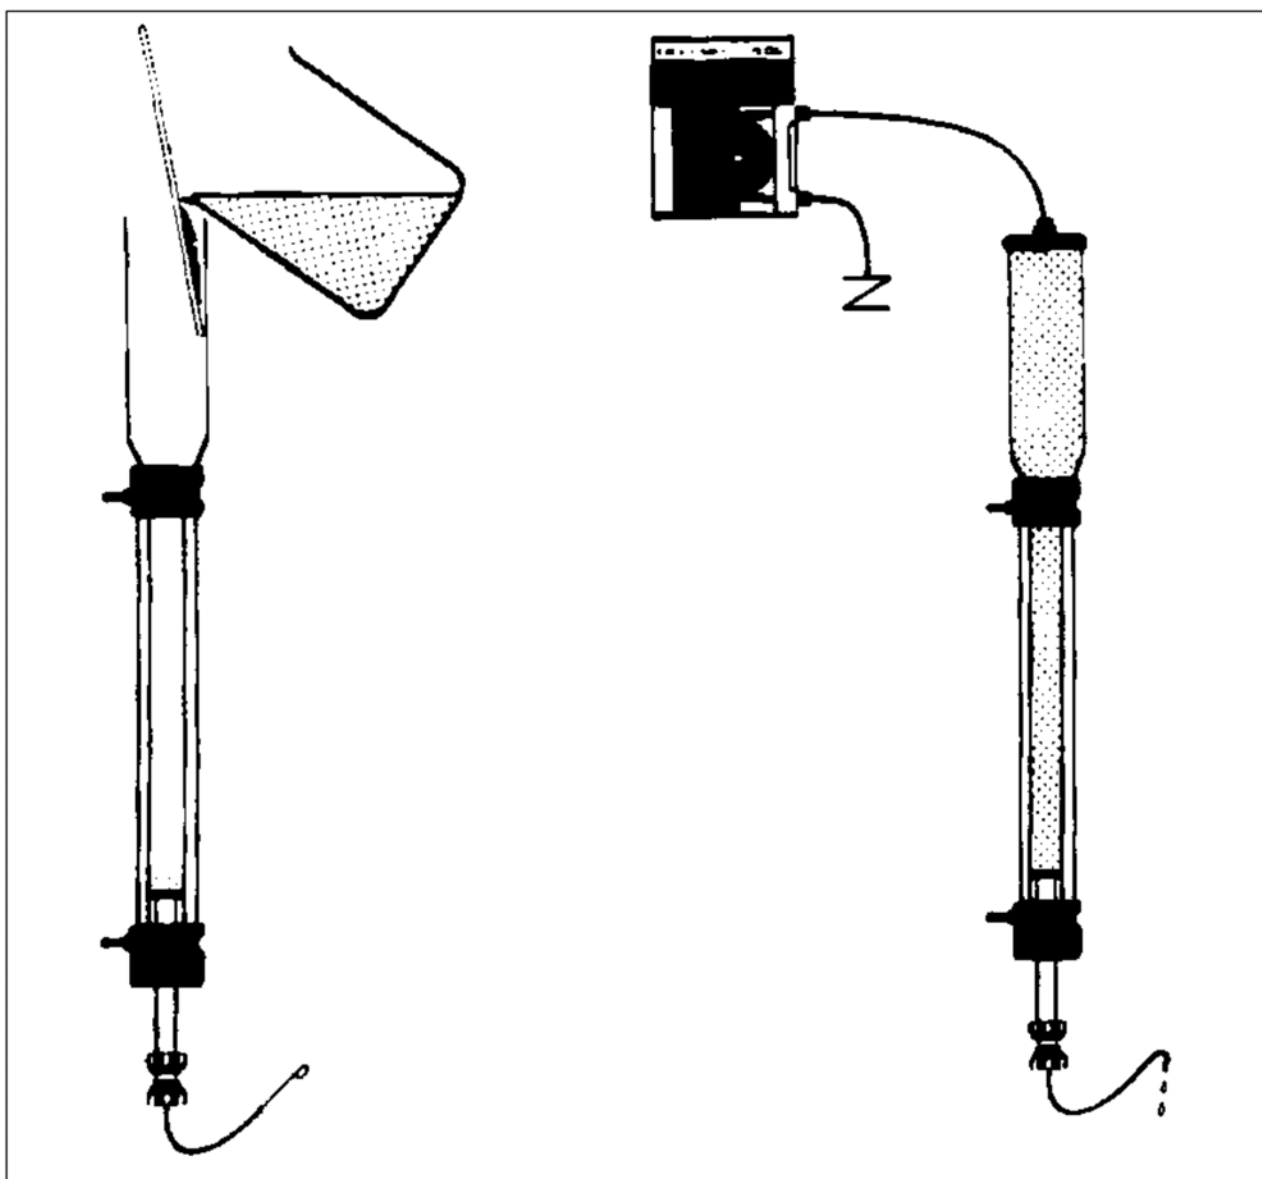

Fig. 2.
1. Resuspend and pour the gel slurry into the column in one continuous motion. Pouring down a glass rod held against the wall of the column helps prevent the introduction of air bubbles. Fill the reservoir to the top with buffer. Screw on the reservoir top tightly, and connect it to the pump. Open the column outlet (Fig. 2.)